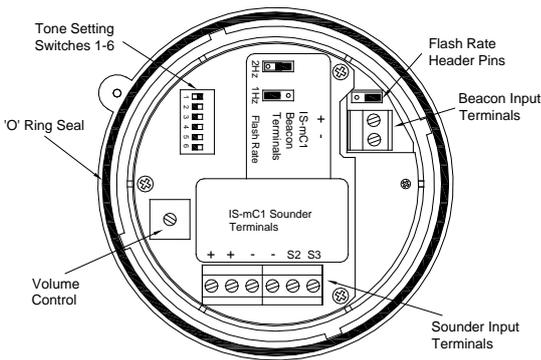

Fig 2 Location of field terminals and controls.
Power is supplied to the sounder section via the sounder input terminals + and – on the sounder PCB (see Fig 2) and the terminals have the following input safety parameters:
Power is supplied to the beacon section via the beacon input terminals + and - on the beacon PCB (see Fig 2) and the terminals have the following input safety parameters:
- Fit the required number of 20mm cable glands or conduit entries into the base and connect the field wiring to the appropriate sounder terminals as shown in section 6 and fig 2 of this manual. The power supply terminals + and - are duplicated so that sounders may
- Select the required sounder output tone by positioning the six switches as shown in Table 1 and Fig 2.
- Check that the 'O' ring seal is correctly located on the sounder/beacon section (see Fig. 2) and insert the sounder/beacon section into the base. Push it fully home and turn it clockwise to align the mouldings before tightening the security screw.
Tone Selection – To select the required first stage tone set the tone switches 1 to 6 (see Fig 2) to the tone setting shown in the table below. The table also shows which 2nd and 3rd stage tones are available for use with the selected first stage tone if more than one tone output stage is required.